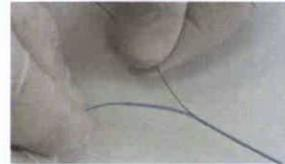

Figure 5
2.7 Continue to advance the cPAX through the Microcatheter until the cPAX Ink mark is reached. The introducer may be removed at this point or at any time beyond this point as desired by grasping the tab of the introducer and the cPAX just proximally and pulling the introducer away from the cPAX as shown in Figure 5.